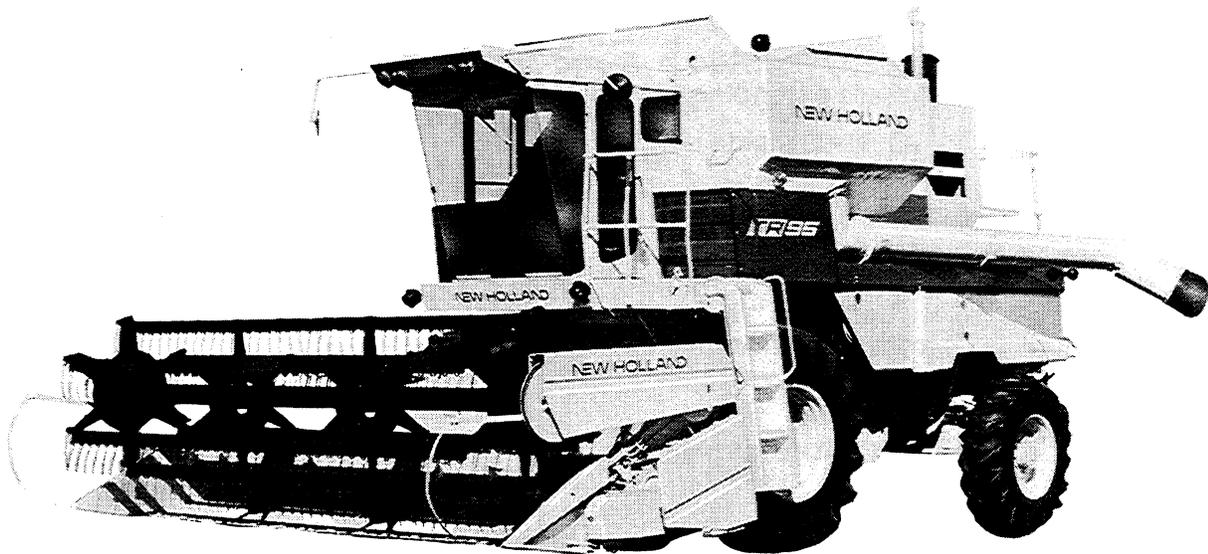

FIGURE 1
*Fabricate a puller plate as shown in Figure 1.